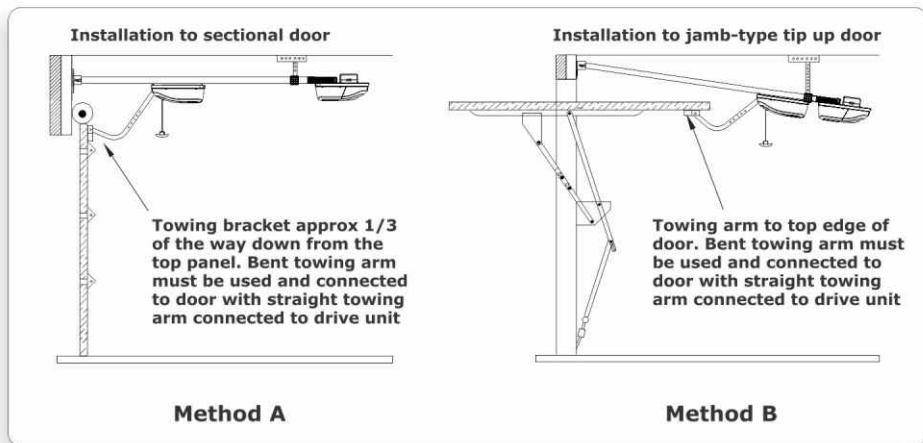

FIGURE 1.
- Locate the Drive Unit (Figure.2-C) and slide it into the Drive Rail and at the same time insert the Drive Chain (Figure.1-B) into the Drive Unit. Slide the Drive Unit at least 500mm in from the end of the Drive Rail